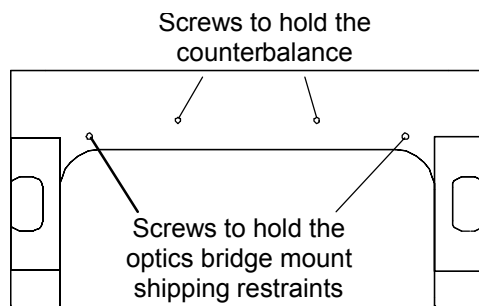

Fig. 19. Screw removal on the rail plate (bottom view).
- With the 9/64-inch hex wrench, remove the (2) #8 screws that hold the counterbalance located under the rail plate (fig. 19).